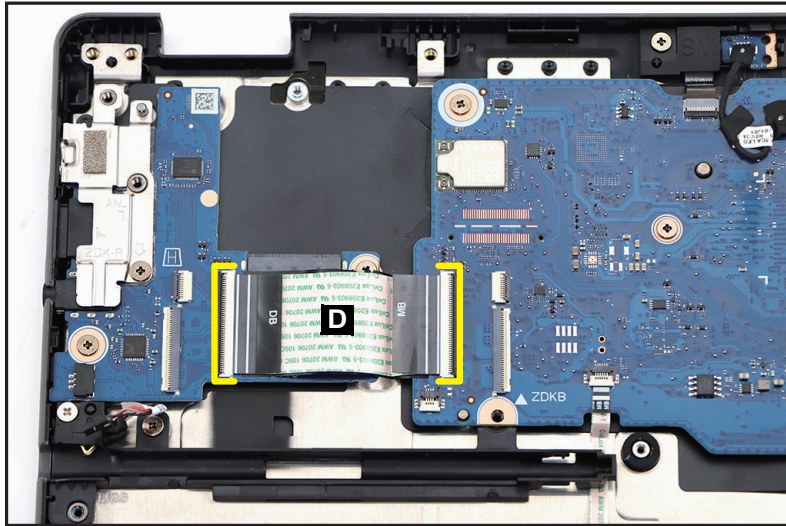

Figure 1-31. LTE Board Removal
4. Disconnect the 45-pin I/O board (H) FFC (D) from the LTE board and mainboard connectors (Figure 1-31). Then remove the FFC.